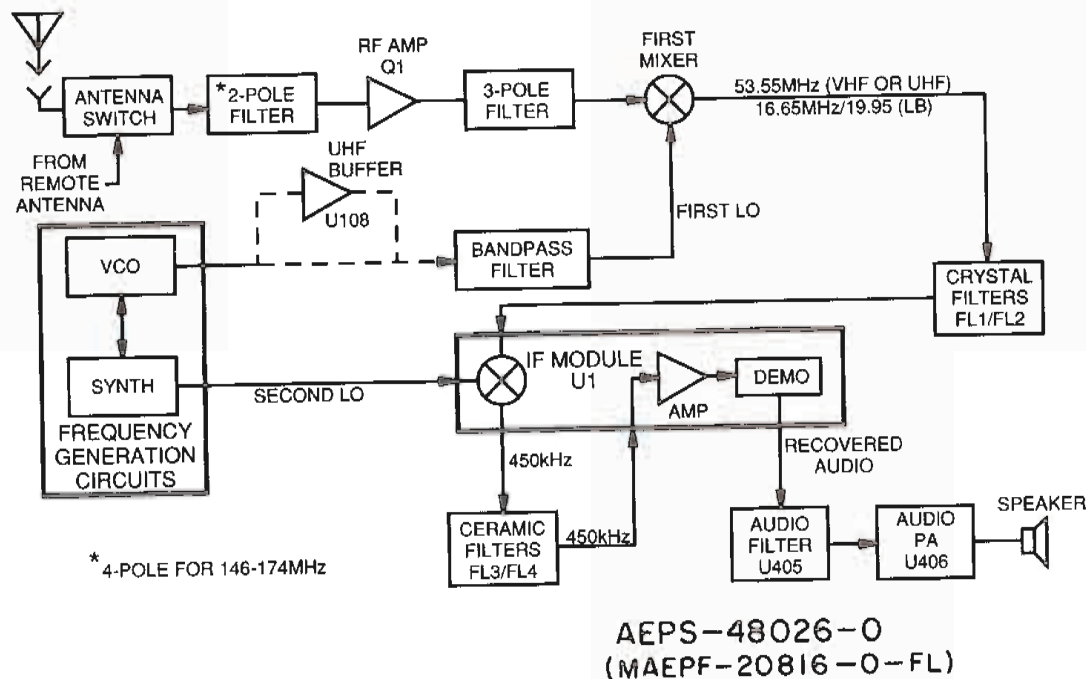

Figure 3. Frequency Generation Circuits
e. Basic Receiver Operation (See Figure 3)